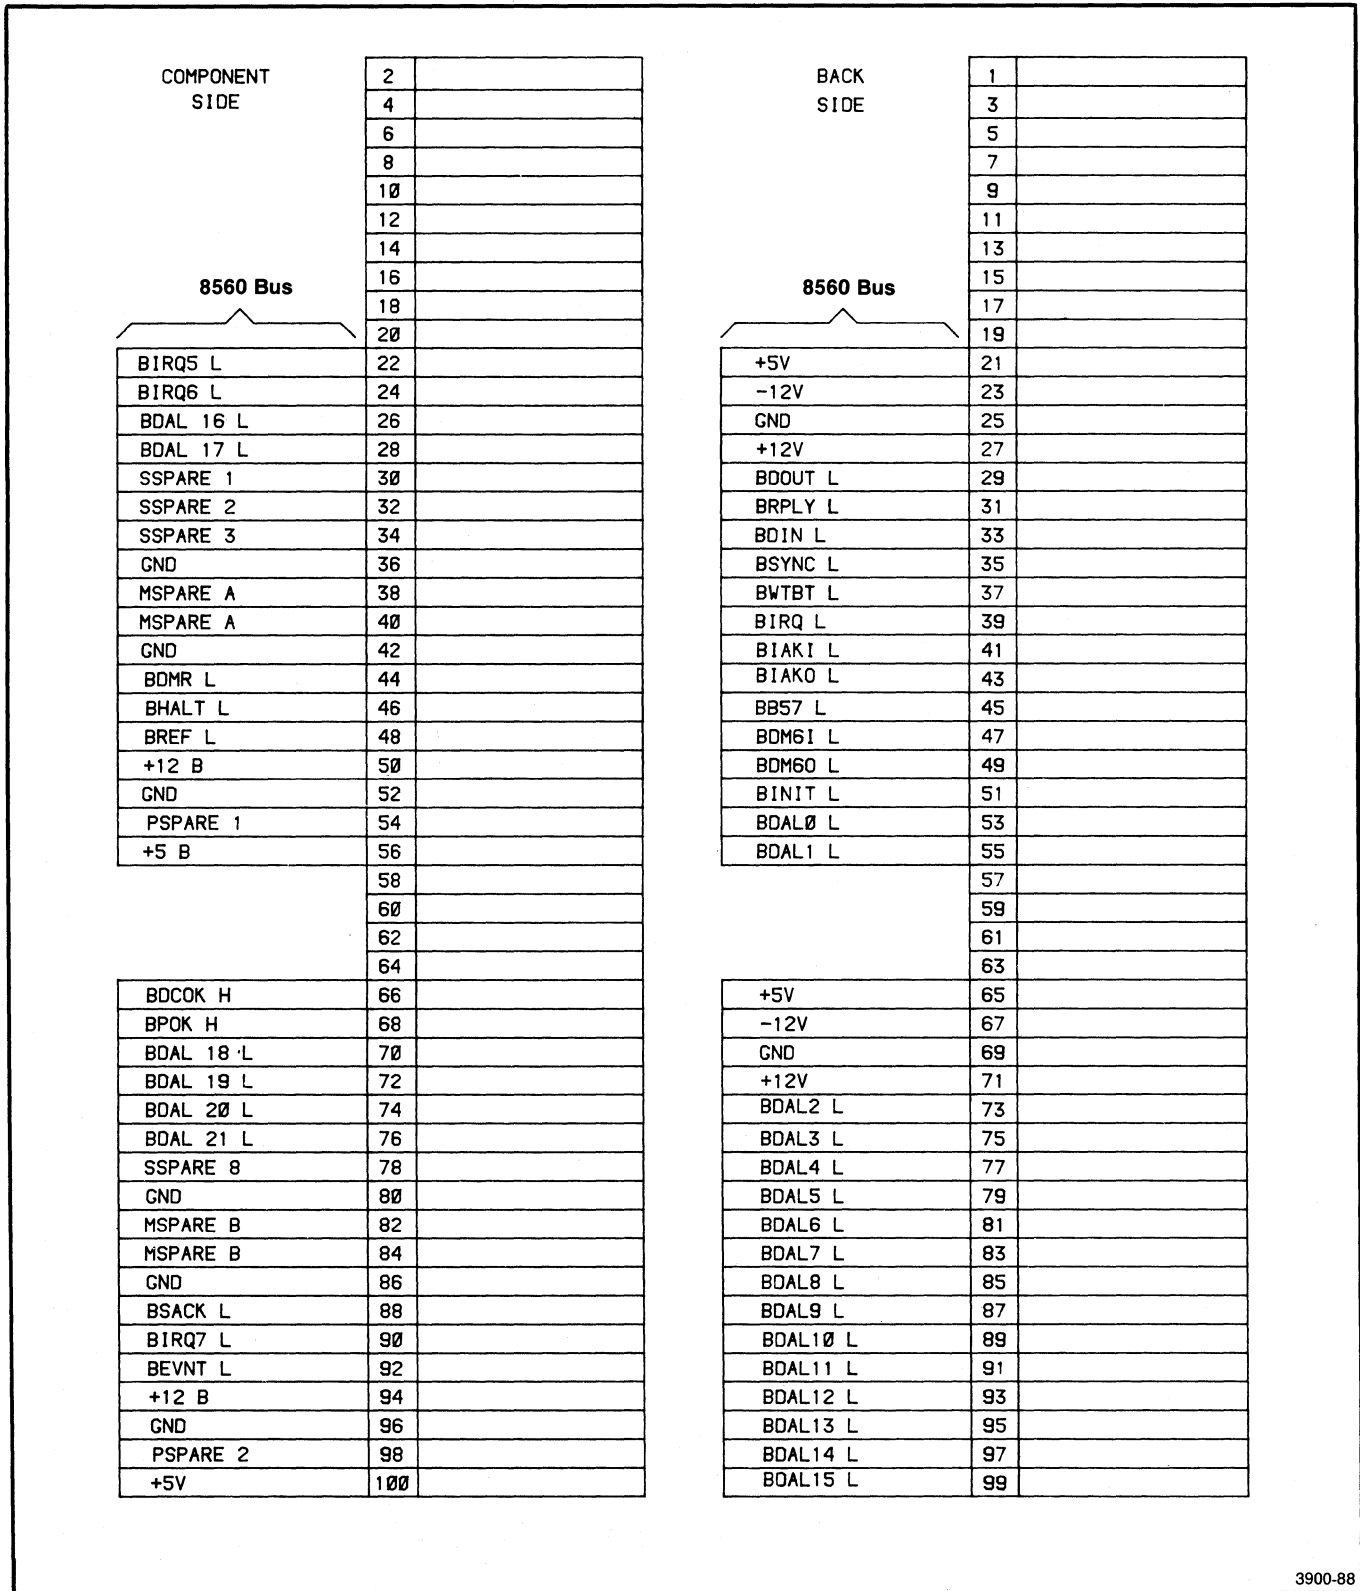

Fig. 19-1. J3/J4 LSI-11 Processor.
Figures 19-1 through 19-6 show eight Main Interconnect Board connector configurations. As shown, each figure repeats all LSI-11 lines, thus relating the 100-line 8560 bus to the 72-line DEC Q-bus.
- J3/J4—LSI-11 Processor (Fig. 19-1)